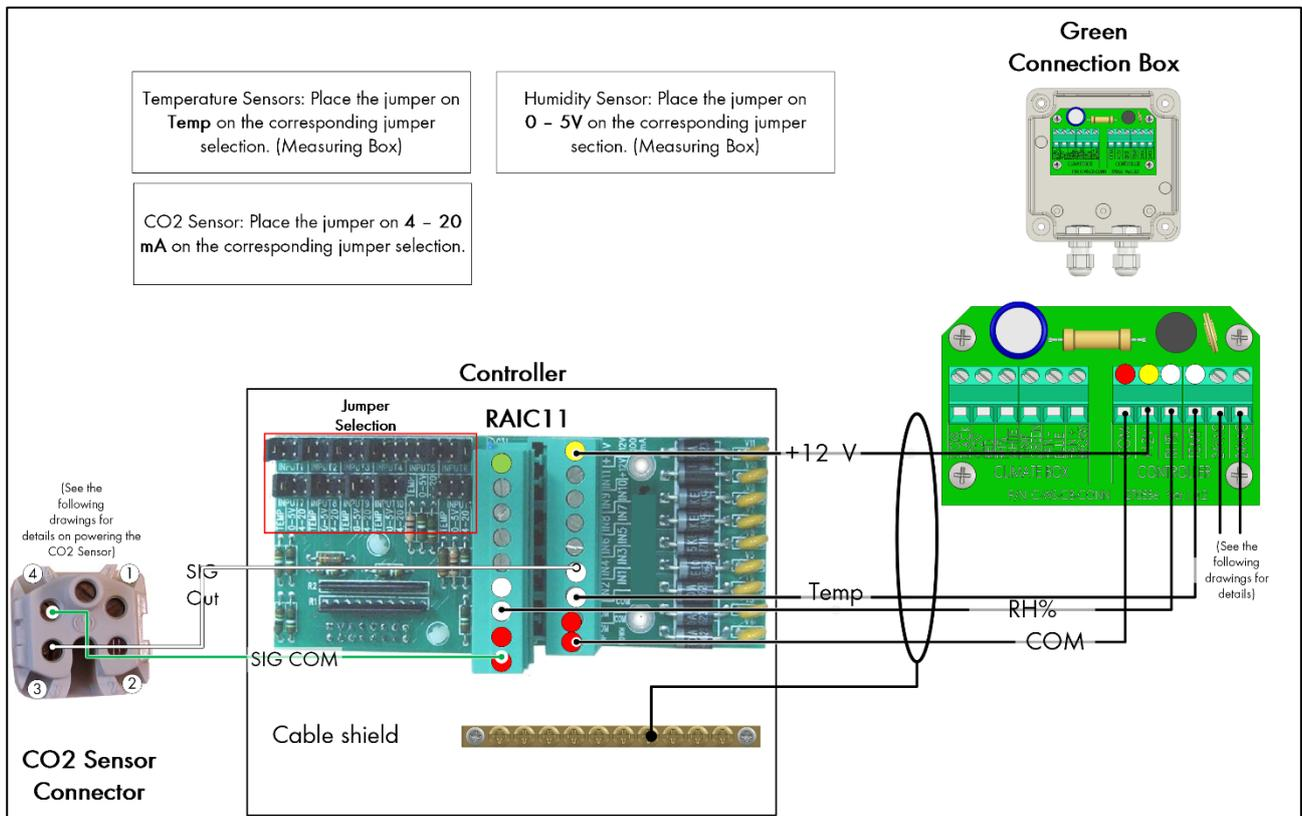

Figure 1: Green Connection Box – Controller RAIC11 wiring (example)
- The Green Box Connection Box comes prewired to the sensors. Those wires are not shown in Figure 1.